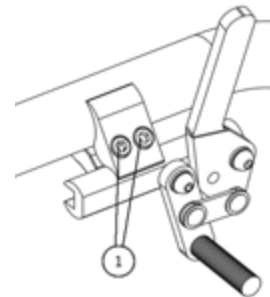

Fig. 27
- Loosen screws (1) (Fig. 27).
- Tighten screws (1) to a snug fit. Final tightening should be done manually.